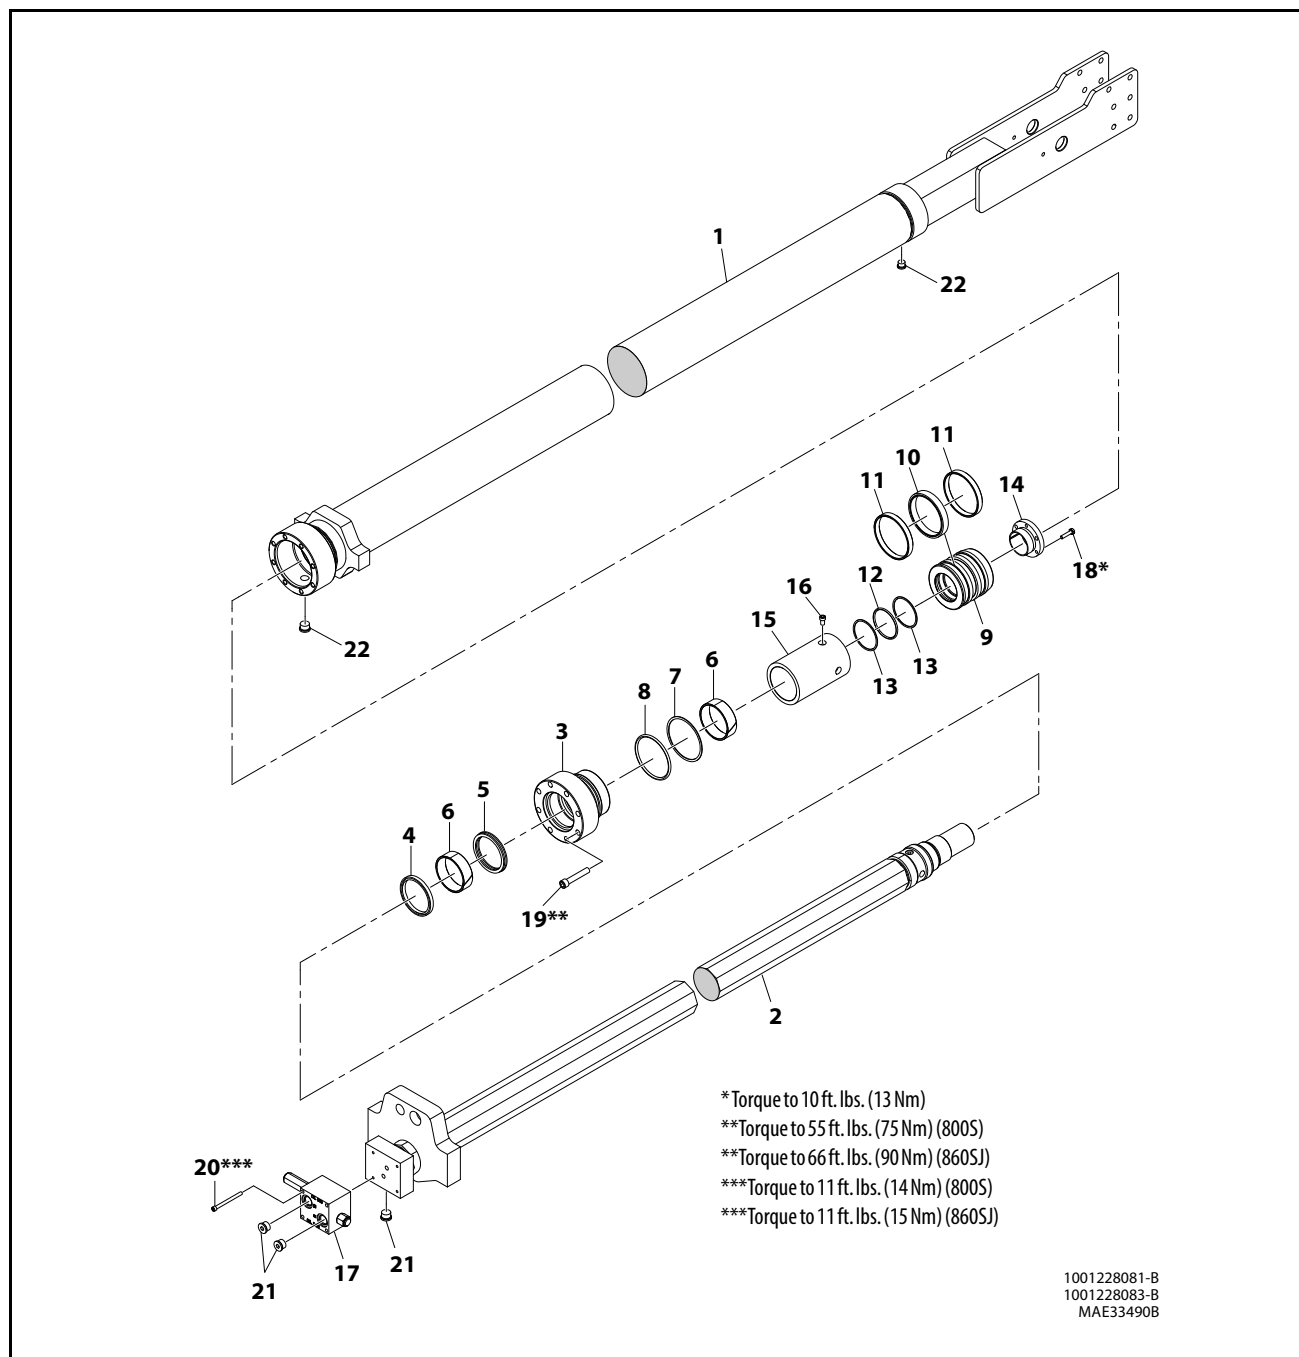

Figure 5-96. Telescopic Cylinder
19. Secure the cylinder head gland using the capscrow. For Torque capscrow Refer Figure 5-96., Telescopic Cylinder.
21. Install the valve assembly. For Torque capscrow Refer Figure 5-96., Telescopic Cylinder.